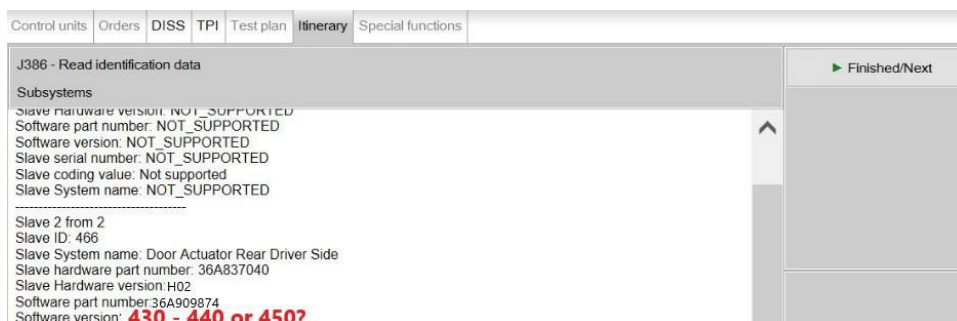

Figure 6
- 2) Referring to the example shown in Figure 6 - Navigate to the front driver door module (0042 / J386) > Guided Functions > Read identification data